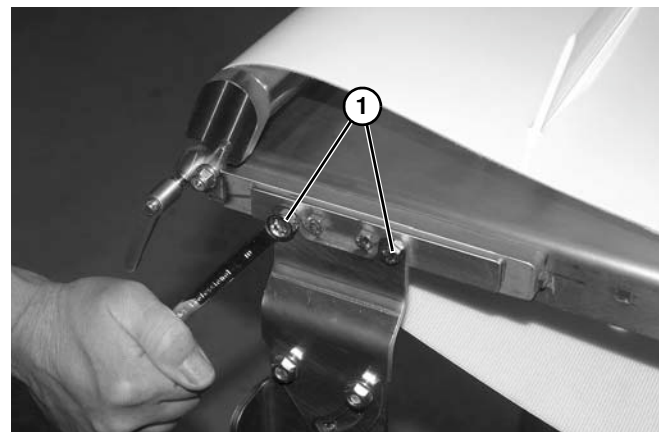

Figure 18
- Idler End: Attach stand to the conveyor frame with two screws (**Figure 18, item 1**) on each side.